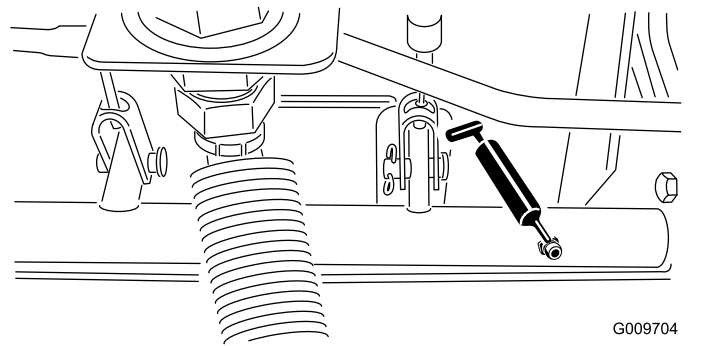

Figure 43
- Brake-shaft pivot bearings (5) as shown in Figure 43